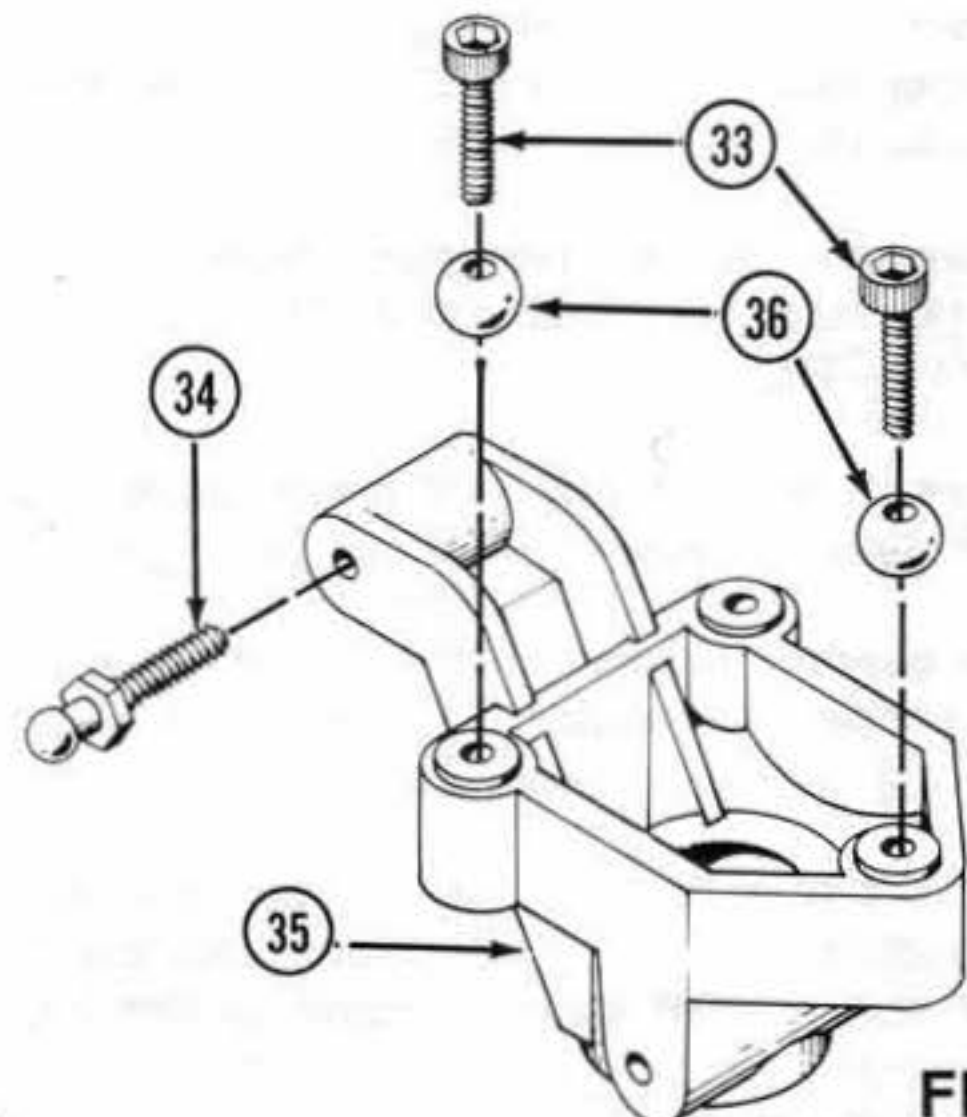

FIG. 18
7. Thread one composite ball joint into top forward hole in hub carrier (35) so that the ball is on the inside and it can just spin freely. * Note: Hubs are non directional. Fig.18
8. Repeat step 7 using lowest hole on hub carrier (35) as shown. Fig.18
9. Install 3/8" studded ball joint (34) in topmost hole pointing forward in hub carrier (35). Fig.18